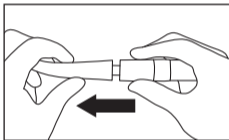

Fig. 11
- 5 Remove the handpiece from the motor. (Fig. 11)